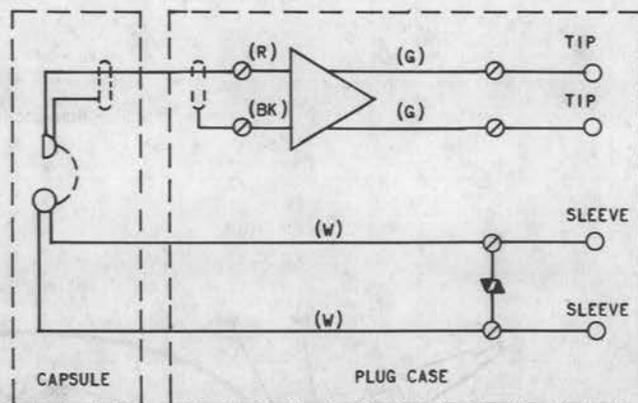

Fig. 10—KS-21118 L1, L2, L16, L21, L22, and L36 Headset Schematic
the KS-2348 screwdriver and remove the profiling assembly. Place the new profiling assembly in the shell half and reassemble the parts in reverse order of removal, connecting the cord terminals as shown in Fig. 10. Dress the leads as originally positioned.
dress of the leads. Using the KS-2348 screwdriver, remove the screws securing the four printed wiring board leads. Remove the terminal board assembly and the printed wiring board. Substitute the new printed wiring board, connect the leads as shown in Fig. 10 and assemble the parts in the reverse order of removal. Dress the leads as originally positioned.
5.12 Cords: Remove the housing screws from the amplifier or remove the plug housing screws from the 464A plug using the 3-inch C screwdriver. Remove the cord terminals using the KS-2348 screwdriver. Remove the cord associated with the capsule assembly by removing the capsule screw, using the watchmaker's screwdriver. Substitute the new cord and connect the cord terminals as shown in Fig. 10 through 12. Reassemble the parts in the reverse order of removal. Dress the leads as originally positioned.